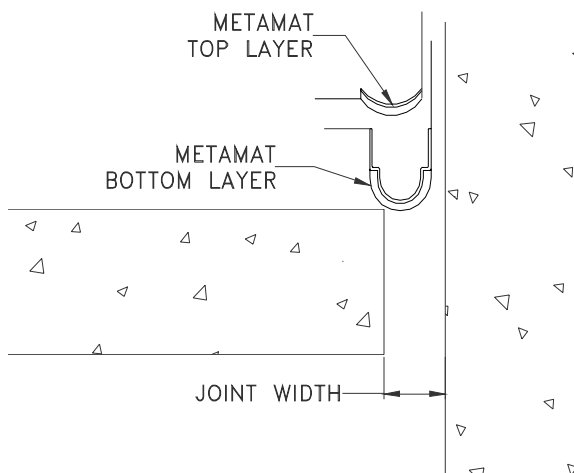

Figure 2
STEP 3. Select the MetaMat fire barrier top layer and the retainer. Place the MetaMat layer, foil side down, into its installed position so that it spans the joint and so that its aluminum foil flanges rest on top of the bottom layer's fabric flanges (Figure 2).